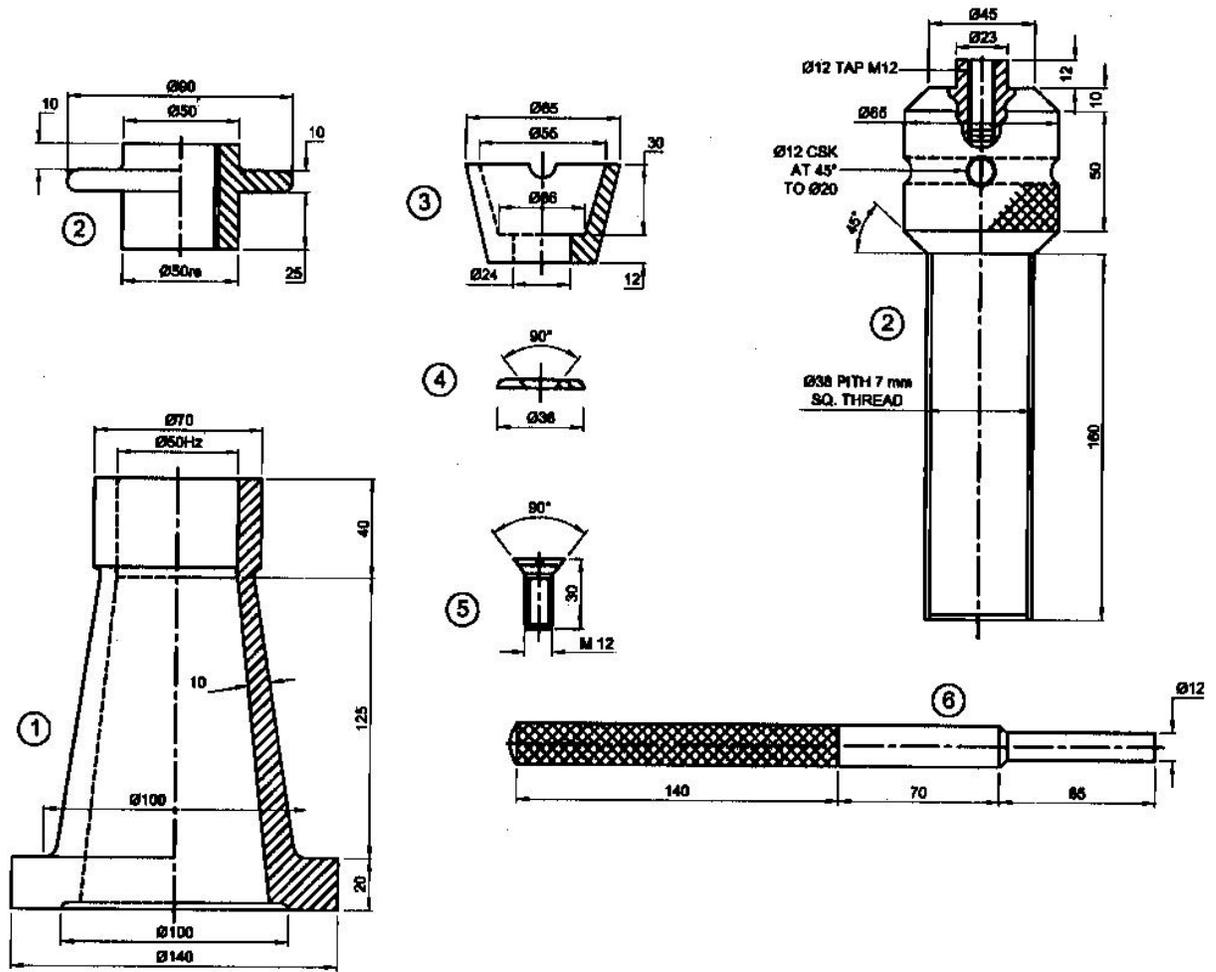

Figure-5
Q. 4 Figure-5 shows the details of “Screw Jack”. Assemble the parts and draw Front view and Top view of assembly. 14